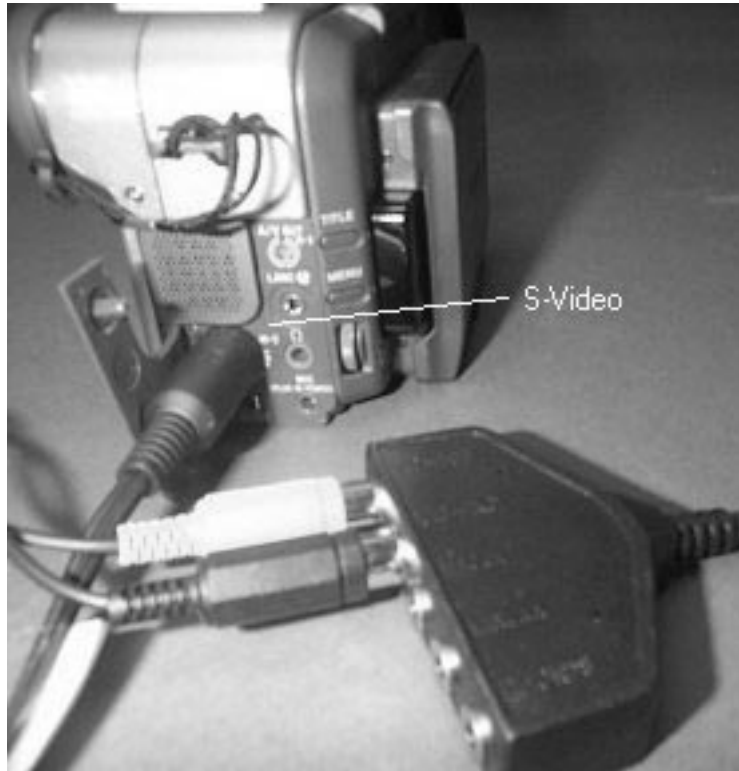

Figure 29 Attaching the S-Video Cable to the Video Camera
- Use the A-V cable to connect to another A-V device and playing back what is on the camera's videotape as shown in Figure 29.